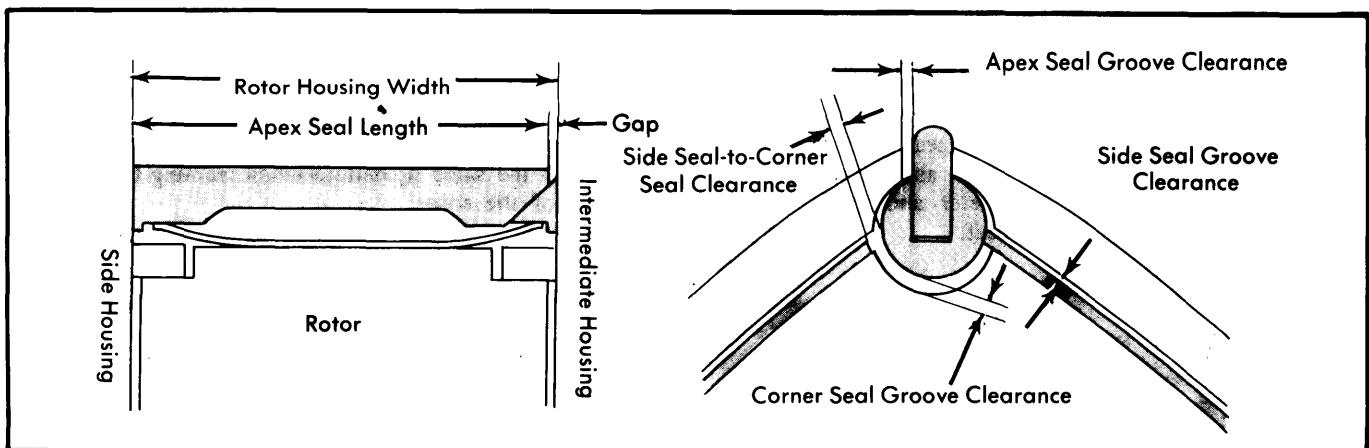
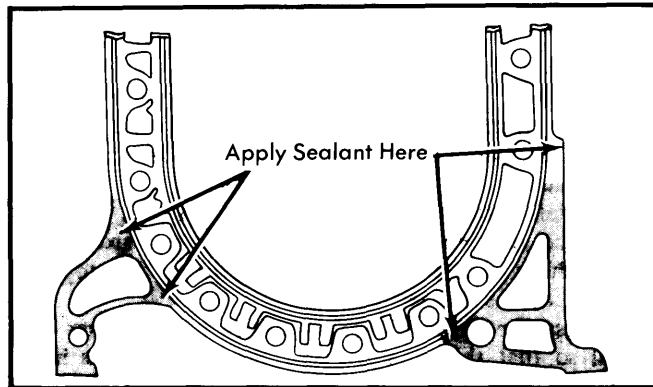
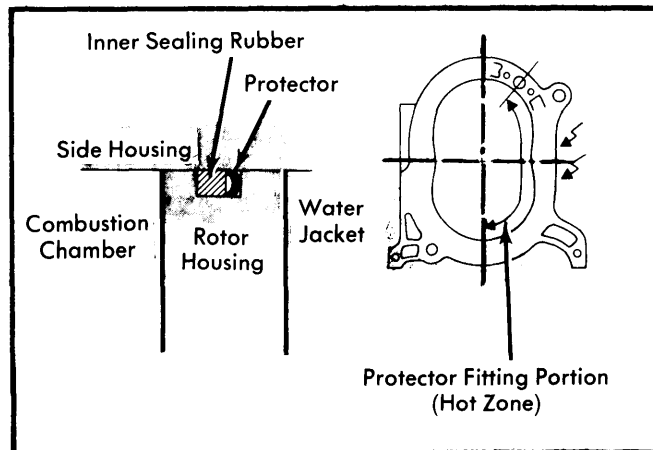

Fig. 15 Measuring Clearance of Apex, Side &amp; Corner Seals
Fig. 20 Applying Sealing Agent to Rotor Assembly
Fig. 21 Installing Protectors for Inner Sealing Rubbers
1) Apply sealing agent to front side of rotor housing as shown in Fig. 20. To provide greater durability to sealing rubbers, install a protector behind each inner sealing rubber (Fig. 21). Install new "O" ring, sealing rubbers and protector in front side of engine housing. Apply light coat of petroleum jelly to hold seals in place.
3) Insert apex seal springs, confirming spring direction (Fig. 15). Install corner seal springs and corner seals in their respective grooves. Install side seal springs and side seals. Fit side pieces to original positions and lubricate with engine oil. Apply sealant to rear side of front rotor housing in areas shown in Fig. 20. Apply engine oil to sliding surfaces of front rotor housing.